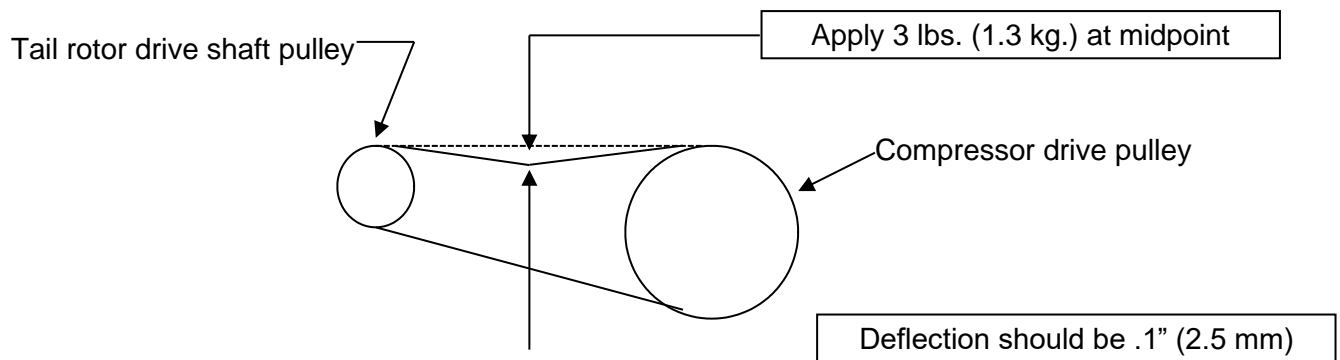

Figure 4: belt tension inspection
- b. Verify proper belt tension as shown in the illustration in **Figure 4**.